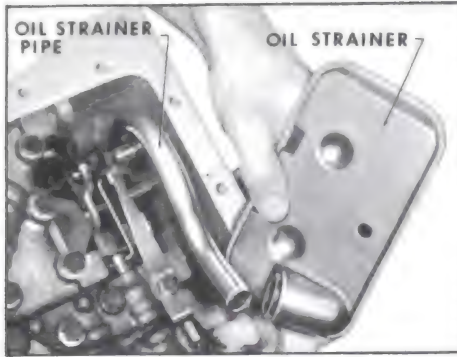

Figure 5-105
2. With a twisting motion remove oil strainer from oil strainer pipe. See Figure 5-105.